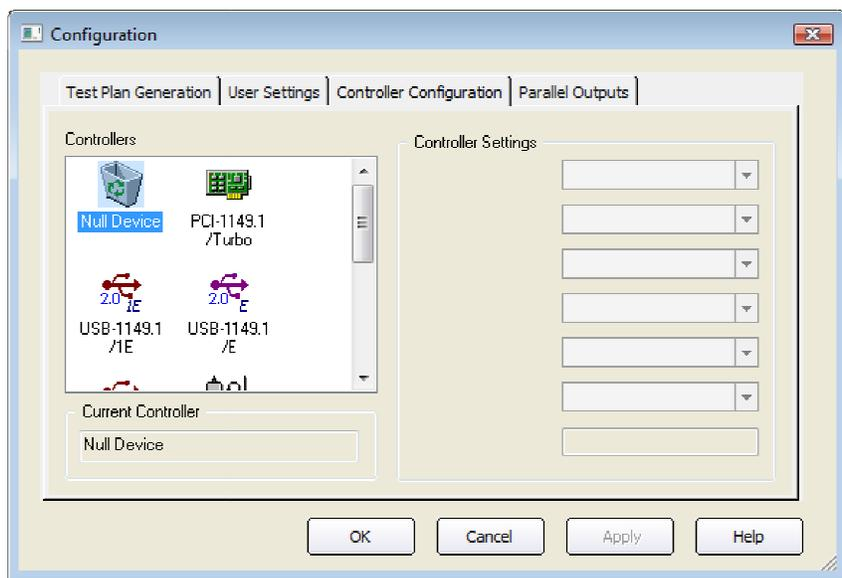

Figure 2-3. Controller Configuration Screen
2. Click the **Setup** menu item and then select the **Controller** entry to display the controller *Configuration* screen shown in Figure 2-3.